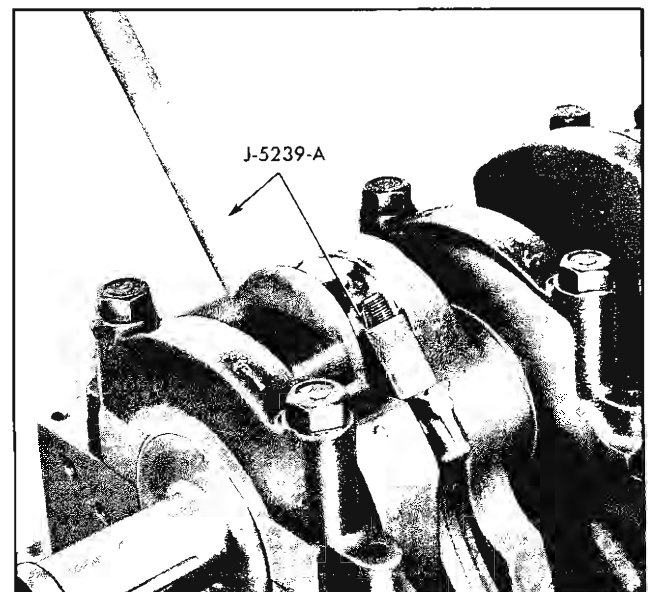

Fig. 6-58 Bolt Guide Set Installed
5. Install Connecting Rod Bolt Guide Set J-5239 on connecting rod bolts (Fig. 6-58).
6. Remove bearing cap and install connecting Rod Bolt Guide Set J-5239 (Fig. 6-58).